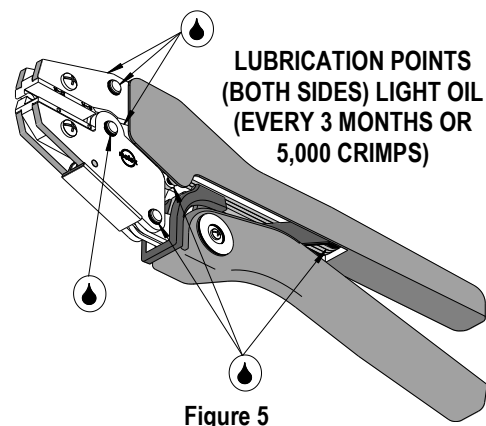

Figure 5
3. Make certain all pins; pivot points and bearing surfaces are protected with a thin coat of high quality machine oil. Do not oil excessively. This hand tool was engineered for durability, but like any fine piece of equipment, it needs cleaning and lubrication for a maximum service life of trouble-free crimping. A light oil, such as 30 weight automotive oil used at the oil points shown in Figure 5, every 5,000 crimps or 3 months will significantly enhance the tool life and ensure a stable calibration.
Should this tool ever become stuck or jammed in a partially closed position, **Do Not force the handles open or closed.** The tool will open easily by lifting the ratchet release lever (See Figure 5).
A Certificate of Calibration (see last page) was supplied with the tool. To recalibrate this Tool, measurements should be taken from each conductor nest and compared to this chart. The tool should be lubricated before recalibration to ensure consistent measurements. Handle preload is factory set to 25-45 LBS. See How to Adjust Tool Preload (see Figure 5) to recalibrate.